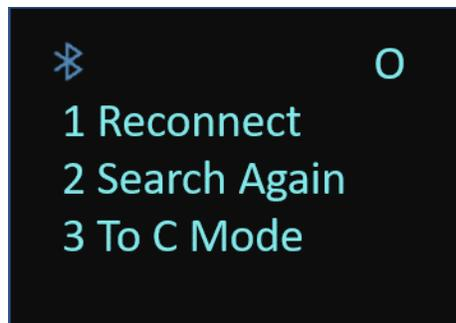
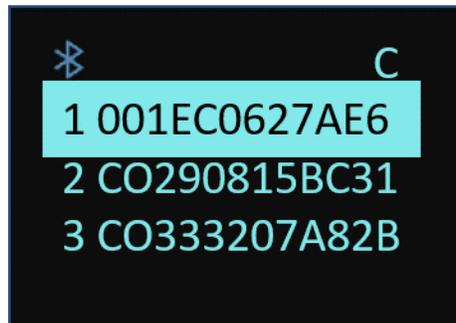

Figure 4. Options after failing to connect to the previously connected device
Figure 5. The Mac address list of the discovered devices
If the connection failed, the menu shown in figure 4 will be displayed. Press **Reconnect** to connect to the previously connected device again. Press **Search Again** to search again any Pyxis sensors or probes that are running in the beacon mode. Press **To C Mode** to switch the BTA-100 to the central mode.
Select **To C Mode** after O mode being failed as shown figure 4 or press the Bluetooth mode button . The BTA-100 will search any pyxis devices or probes that are running in the peripheral mode. The C icon is displayed in the upper-right corner to indicate the central mode being activated. The Mac address list of discovered and connectable devices will be displayed on screen as shown in figure 5.
- The BTA-100 will search Pyxis Bluetooth devices that are in the peripheral mode and display the Mac addresses of the discovered devices (figure 5).